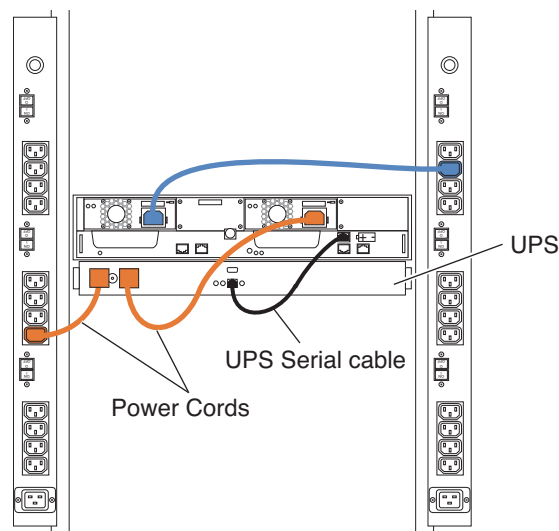

FIGURE 17. SSR212PP2f or SSR212PP2i UPS Serial Cable and Power Connections
As you follow the steps below, refer to Figure 17 and to the documentation that shipped with the replacement UPS.
- a. Unplug the UPS serial cable from the serial ports on SP A and on the UPS and discard it (Figure 17).
- b. Unplug the storage-system power cord from the UPS (Figure 17).
- c. Unplug the UPS from the ac power source (Figure 17).
- a. Connect the UPS serial cable that came with the replacement unit to UPS serial ports on SP A and the UPS (Figure 17).
- b. Plug the storage-system power cord connected to power supply A into the power outlet on the UPS (Figure 17).
- c. For a 120V UPS, plug the attached UPS power cord into an ac power source (Figure 17).
- d. For a 230V UPS, plug one end of the loose UPS power cord into the UPS power outlet and the other end into an ac power source in the cabinet, that is, the (power distribution unit (Figure 17).